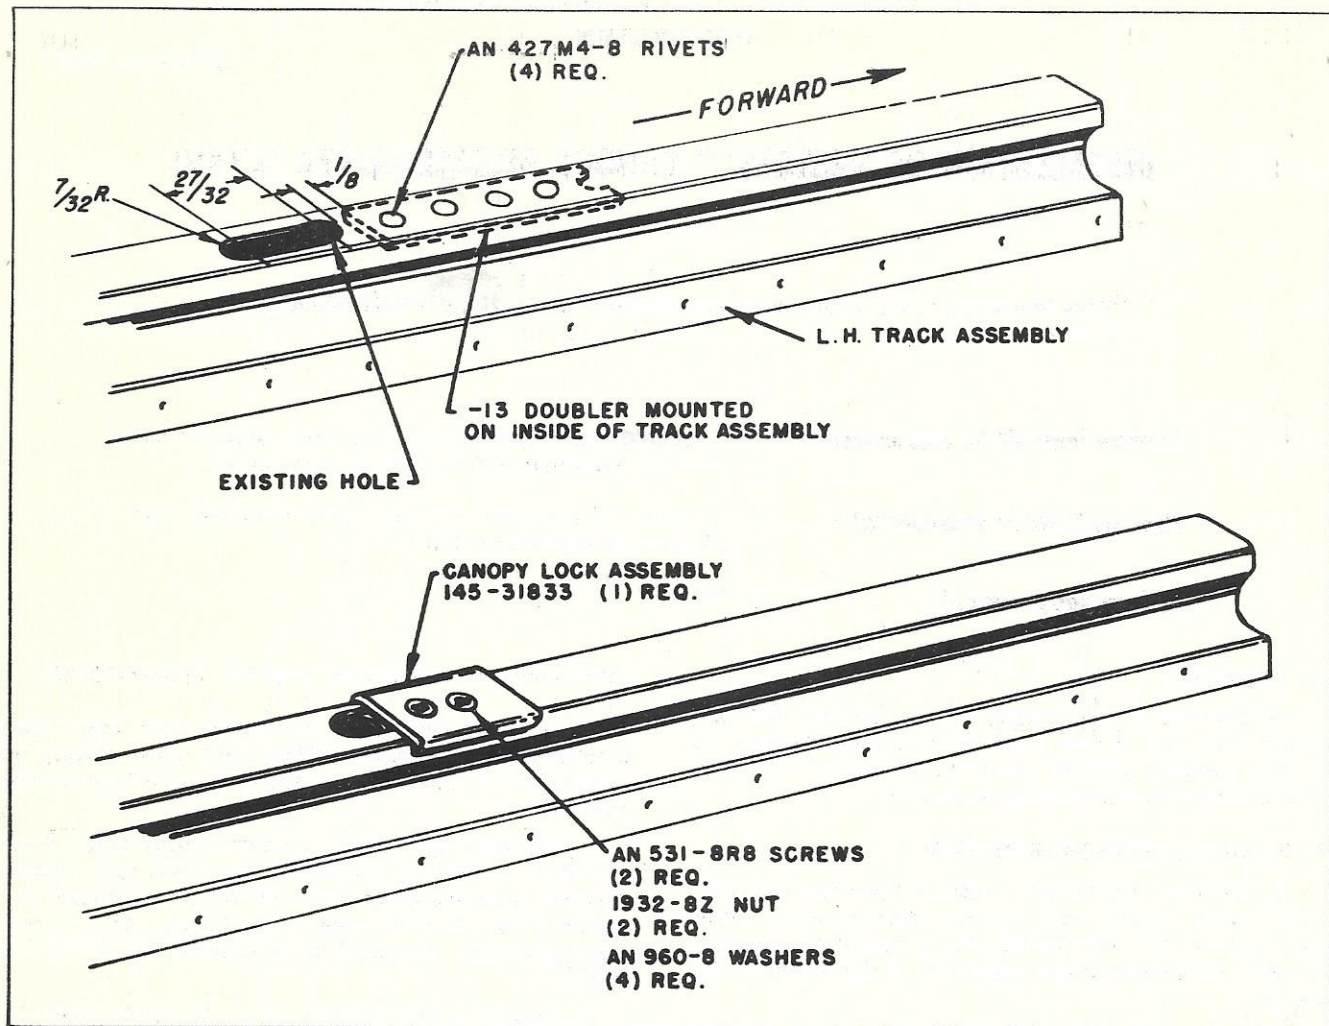

Figure 2
f. Install track doubler, part No. 145-31829-13. Locate doubler 1/8 inch forward of edge of existing hole in track. Use four each rivets, part No. AN427M4-8, equally spaced. Cut slot in track, as shown in figure 2.
g. Install canopy lock assembly, part No. 145-31833, on left-hand track using two screws, part No. AN531-8R8, and two nuts, part No. 1932-8Z. (See figure 2.)